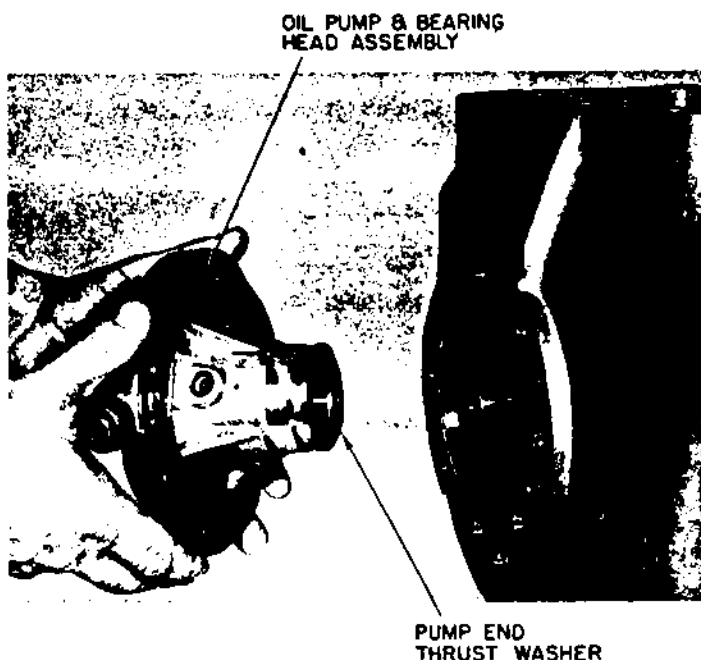

Figure 3-17. Installing Oil Pump and Bearing Head Assembly and Pump End Thrust Washer
a. Install the pump end thrust washer on the two dowel pins located on the bearing head. (See figure 3-17.)